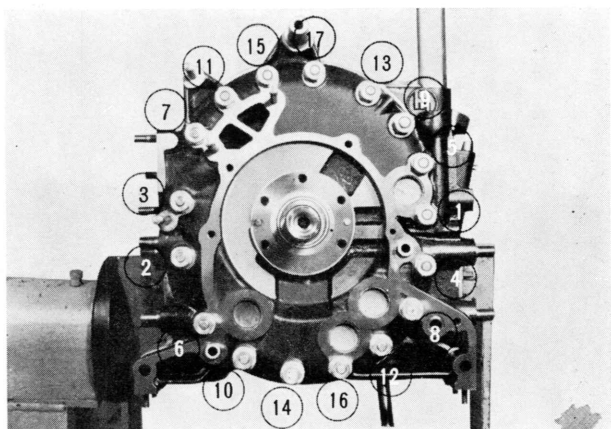

Fig. 1-102 Tightening order
2. Tighten the bolts gradually in the order shown in Fig. 1-102. The specified tightening torque is **2.5 m-kg (18 ft-lb)**.